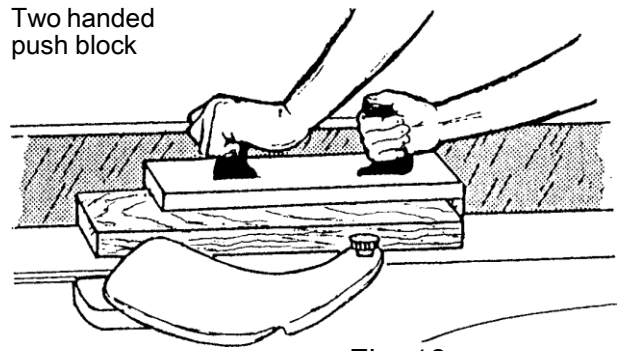
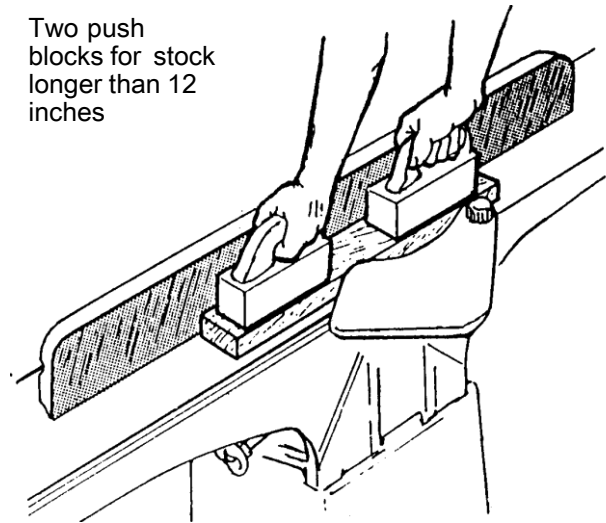
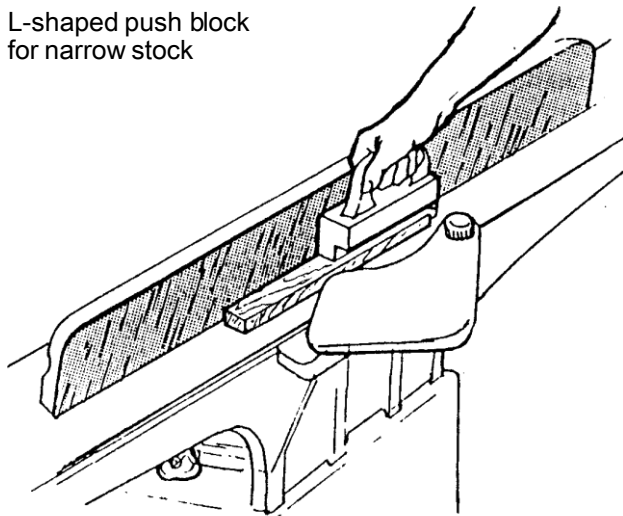

Fig. 18
Fig. 19
Fig. 20
Never surface pieces shorter than 12 inches or thinner than  $3/8$  inch without the use of a special work holding fixture. Never surface pieces thinner than 3 inches without the use of a push block. On stock 8" to 12" long use a single two-handed push block (Fig. 18). On stock longer than 12 inches use two push blocks (Fig. 19). With narrow stock use the type push block shown in Fig. 20. When surfacing short stock over 4 inches wide, use two (2) push blocks to guide material over cutterhead (Fig. 21).